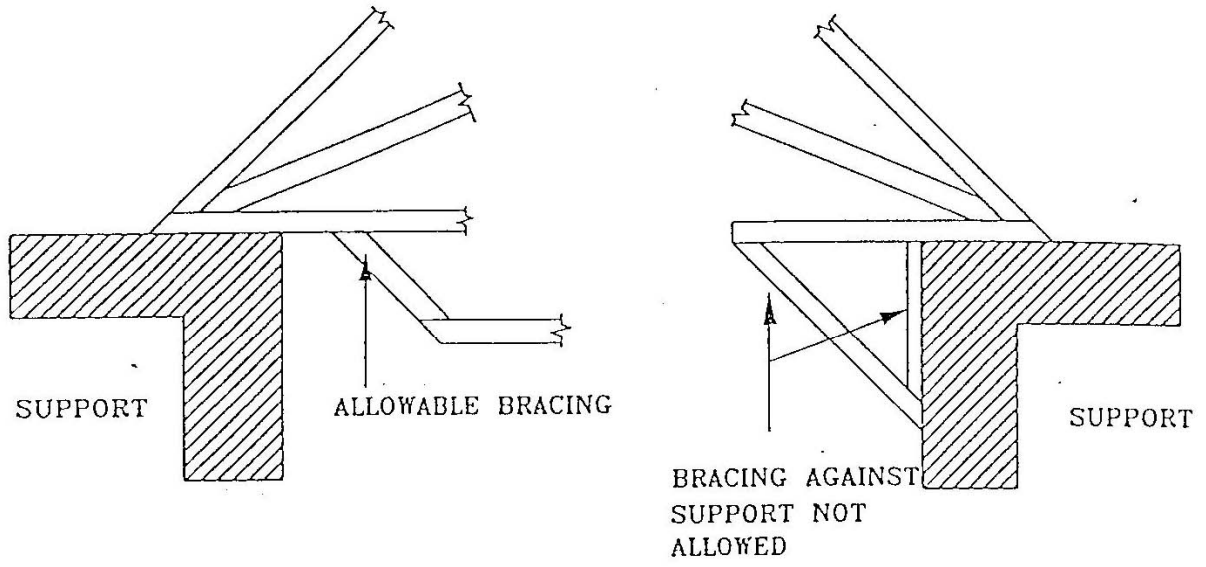

FIGURE 4
6. The bridge will not be allowed to butt up against the vertical sides of the supports. Only "simple" supports will be allowed (See Figure 4).